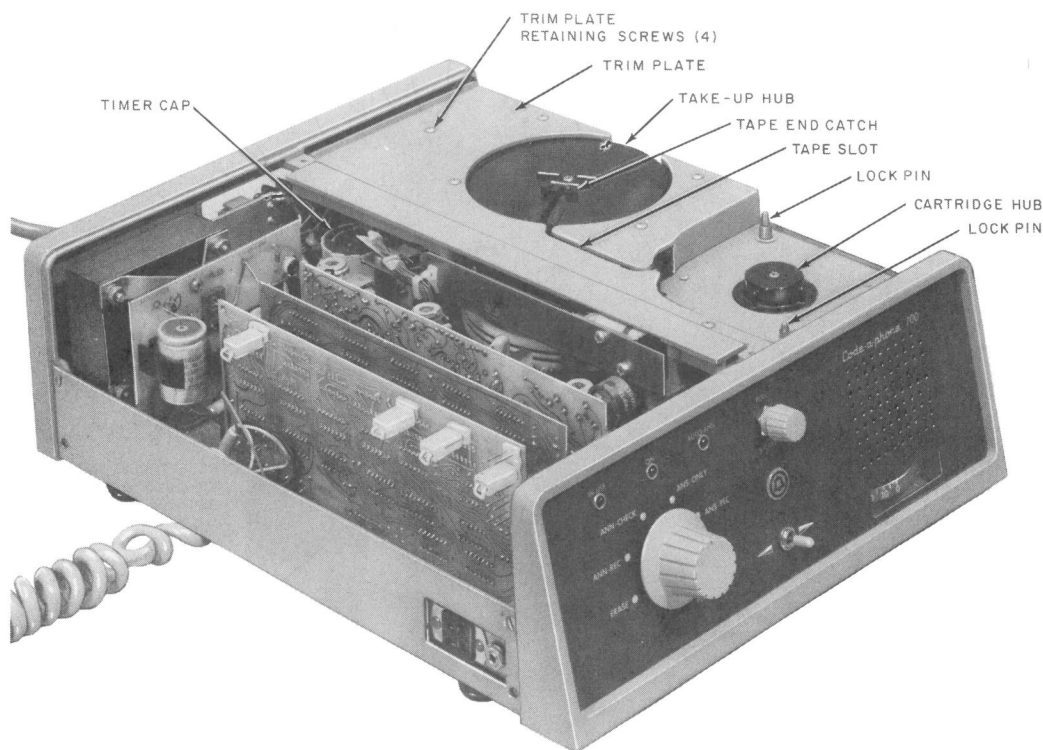
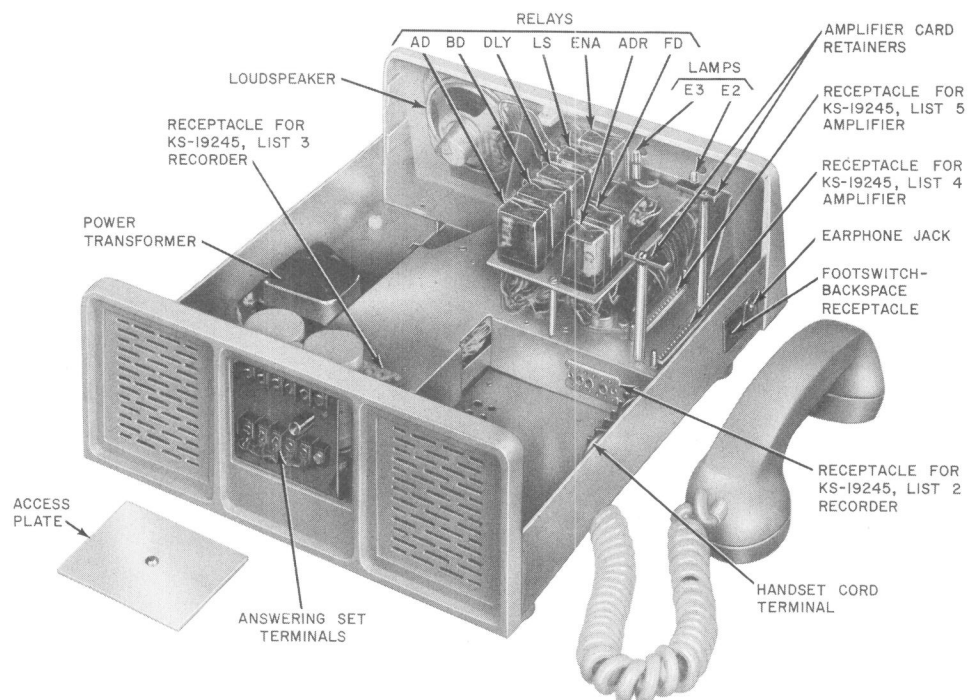

Fig. 24—KS-19245, List 1 (MD) Telephone Answering Set—Cover and Components Removed
Fig. 25—KS-19245, List 13 (MD) and List 24 Telephone Answering Set—Cover Removed
- (1) Set function selector to OFF.
- (2) Place cartridge (Fig. 9) over cartridge lock pins and hub (Fig. 25) and press down into place.
- (3) Slide tape end (Fig. 9) through tape slot (Fig. 25) and into slot of take-up reel and lock into place. Make certain, by listening for a snap, that both the left and right sides of the tape end are locked in place.
4.14 Cartridge Removal (Fig. 25).
- (2) List 1 set only.
- (a) Loosen amplifier board retainers (2) (Fig. 24).
- (3) Lists 13 and 24 sets only.
- (a) Remove the four trimplate retaining screws (Fig. 25).